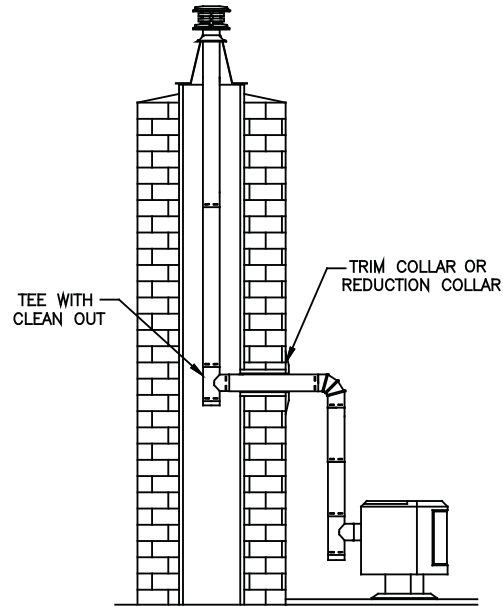

Figure 26
**B.** A Tee Section is installed at the bottom end of the vertical pipe (Figure 26).